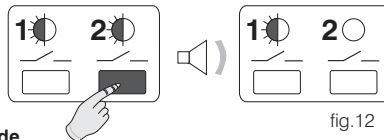

fig.12
- Hold down **2**/**—** key until a single acoustic signal sounds, then release it. **LED 2** is off and **channel 2** is independent of the “**Master**” chronothermostat (fig. 12).